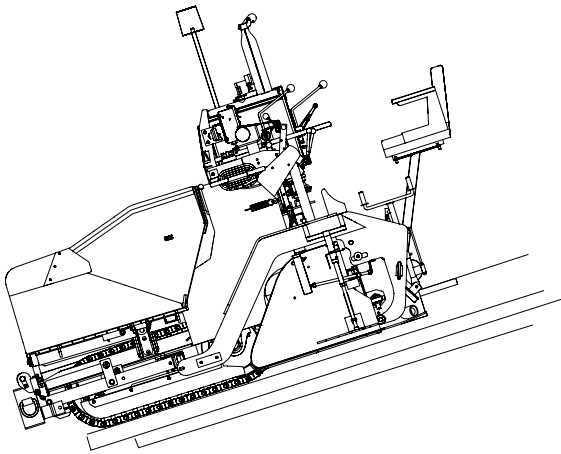

Figure 4-15. Correct Loading/Unloading Position
5. Move paver forward down the ramp as shown (Figure 4-15).